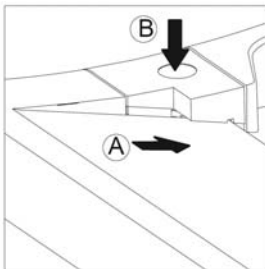

Fig. 9
- 1 Place the material to be cut in the corner cutter (max. 1 sheet) (Fig. 9, A).
- 2 Press the button (Fig. 9, B).